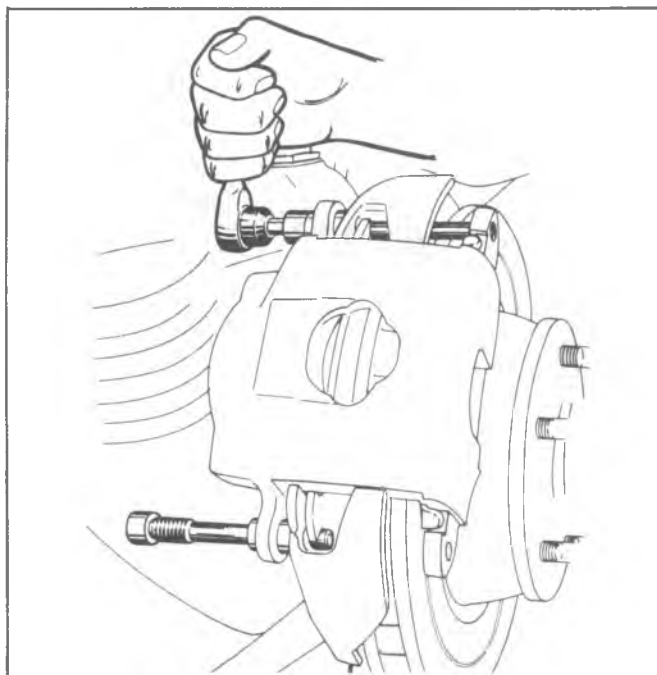

Fig. 5-21--Removing Mounting Bolts
3. It is not necessary to disconnect the brake hose for shoe and lining replacement. Remove the two mounting bolts which attach the caliper to the support bracket (fig. 5-21). Lift the caliper off the rotor and remove the inboard shoe. Dislodge the outboard shoe and position the caliper on the front suspension arm so that the brake hose will not